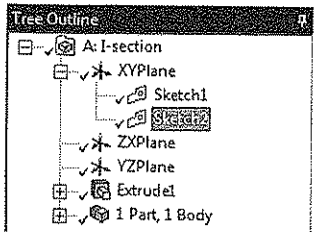

Figure 3-38 The Tree Outline with Sketch2 added to it
- 2. Choose the **New Sketch** tool from the **ActivePlane/Sketch** toolbar; the new entry with the name **Sketch2** is added under the **XYPlane** node in the Tree Outline, refer to Figure 3-38.